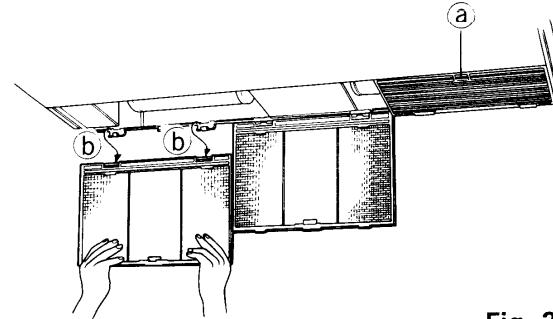

Fig. 2
- 2) Raise the suction grille lightly and shift it in the direction of the arrows (b) to remove it from the hooks. Fig. 2